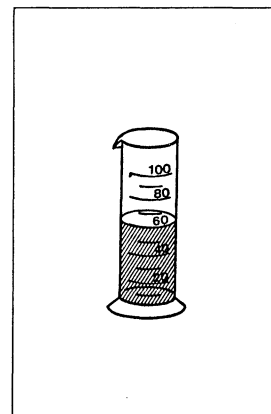

Fig. 3 ► 5.
5. Half-fill the beaker with water and pour water into the measuring cylinder up to the 60 cm^3 mark ► Fig. 3.